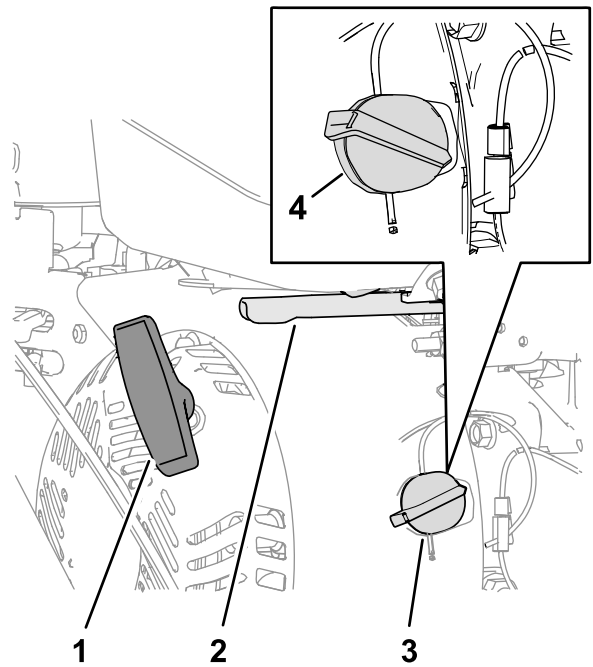

Figure 12
1. On the right side of the engine, rotate the engine On/Off switch clockwise to the ON position (Figure 12).
3. Place the throttle midway between the SLOW and FAST positions located on rear, right side of the engine (Figure 12).
4. Slowly pull the recoil-start handle until you feel resistance and then stop (Figure 12).
2. Place the throttle midway between the SLOW and FAST positions (Figure 12).
3. Allow the engine to run for a minimum of 15 seconds, then turn the engine On/Off switch to the OFF position to stop the engine (Figure 12).